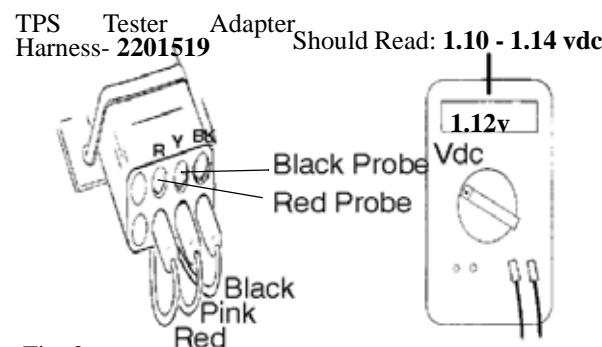

Fig. 2
- Set up the TPS Test Adapter Harness 2201519. Verify that the 9 volt battery is new. Figure 2.